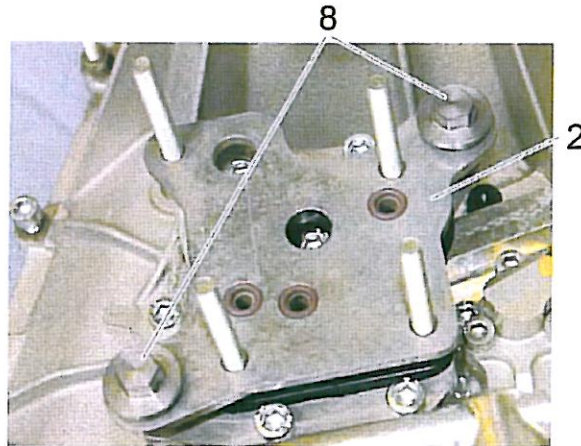
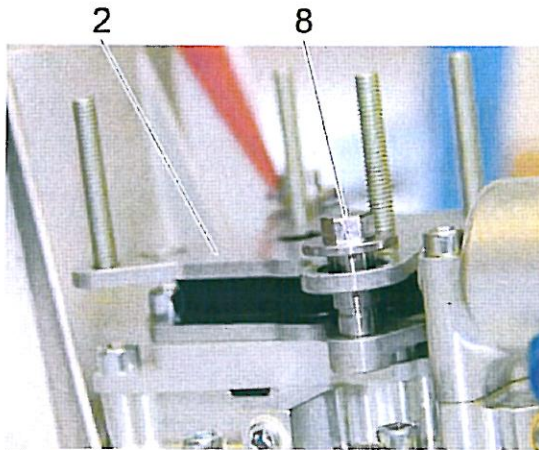

Figure 17
Figure 18
13. Attach the two screws (item 8) and tighten them up to the specified tightening torque. See Figure 17 and Figure 18.